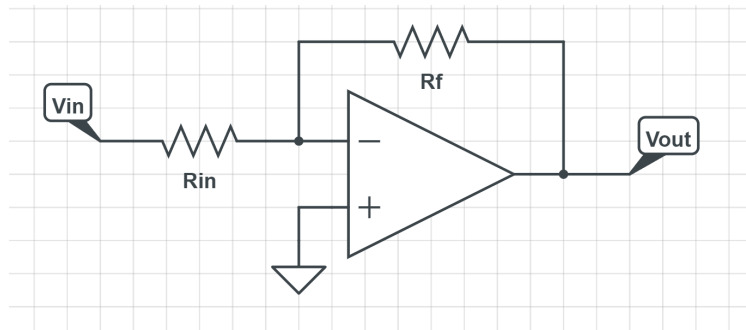

Figure 1: Inverting amplifier
3. An inverting amplifier with no reference voltage (non-inverting terminal is connected to GND) is shown in Figure 1. Please upload all of your work for this problem.